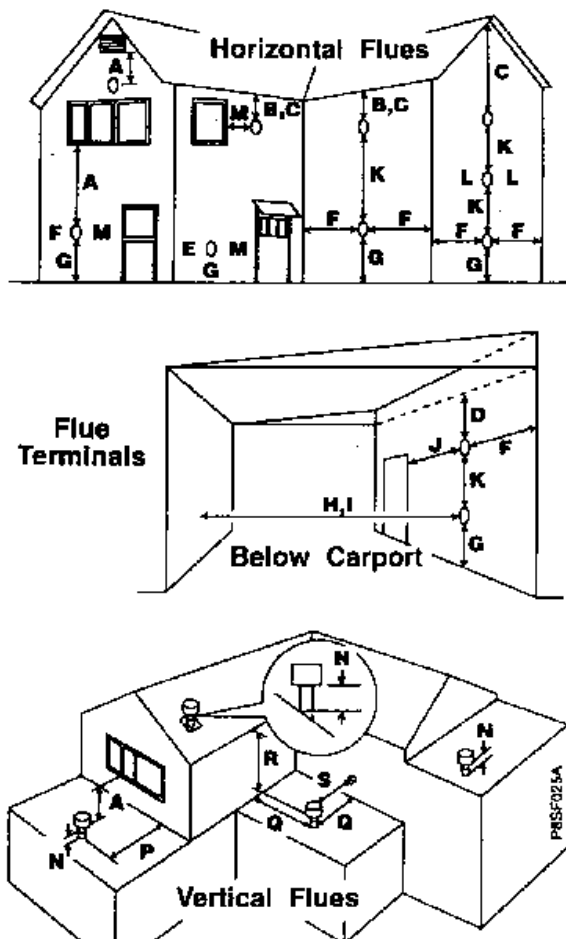

Fig 6
1.3 Flue Terminal and Ducting (Fig: 6 - a, b & c)
90° In-line elbow kits and **135° In-line Bend** kits are also available for more flexible siting. Horizontal flues can be set at 45° angles to the combination boiler, through 360° to the miniature terminal on the outside of the building. The siting positions for horizontal flue terminals are shown in Figs. 6. - a) & b).
135° Off-set kits are available for both concentric and twin tube. The siting of the flue terminal through a roof is shown in Fig 6. - c).